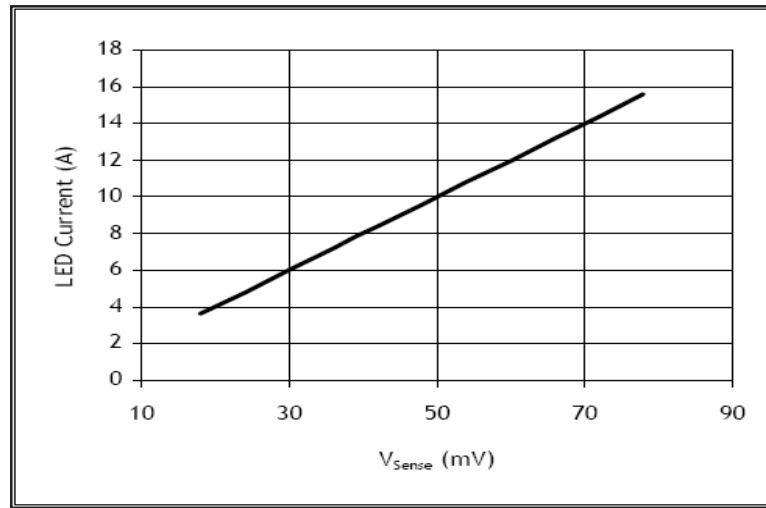

Figure 11: LED Current as a function of  $V_{sense}$
2. To determine the current through the LED, measure the voltage across the sense resistor test studs (see Figure 3). Figure 11 shows the relationship between the sense resistor voltage ( $V_{sense}$ ) and the LED current, ( $I_{LED}$ ), which is also calculated using: